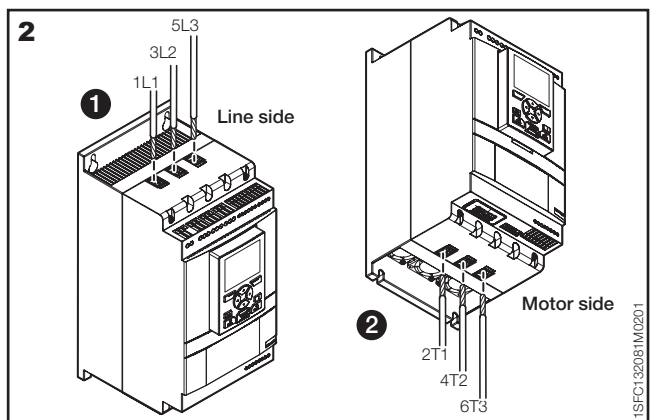
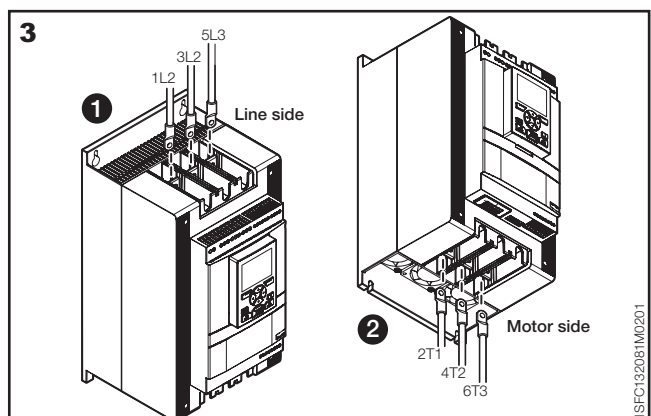

Figure 2: Terminal connection clamps
Figure 3: Terminal connection bars
2. Connect the main circuit: terminals 1L1 - 3L2 - 5L3 to the line side **1**, and terminals 2T1 - 4T2 - 6T3 to the motor side **2**, see **Figure 2**. Use wire connection for PSTX30-105, see **Figure 2** and terminal connection for PSTX 142-370, see **Figure 3**.
3. Connect the line side to terminals 1L1, 3L2, 5L3. see **1** **Figure 2** and **3**. Connect the motor to terminals 2T1, 4T2, 6T3 on the motor side, see **2** **Figure 2** and **3**.